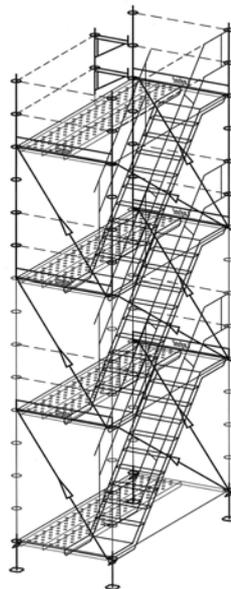

FIGURE 6.
15. Fix 1.4m end toe board across each end of platform at 2m level, fitting loop over pin on board lock and engaging cupped end with the opposite standard. (Figure 6.)
16. Proceed in a similar fashion in 2m lifts, using 2m or 4m standards until the top section is reached. (Figure 6)